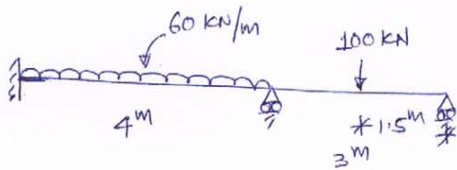

Fig. 5 (Q.3(b) and
**(b)** Find load vector and stiffness matrix the continuous beam shown in fig. 5. **04**
**(b)** Find only flexibility matrix for continuous beam shown in fig. 5.  $M_a$  and  $M_b$  are to be taken as redundant. **04**